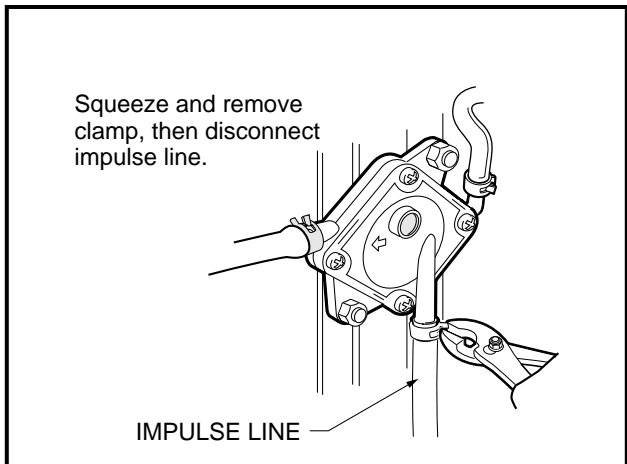

Figure 16-11 Impulse Line
- 3.3. Disconnect impulse line from fuel pump (**Figure 16-11, Page 16-8**).